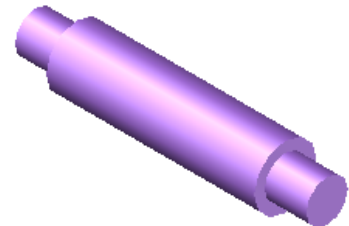

Figure Step 3
Step 3 On layer: Surface Axle, surface the complete model. Use faces, meshes, regions, or a mixture of them. (Figure Step 3)